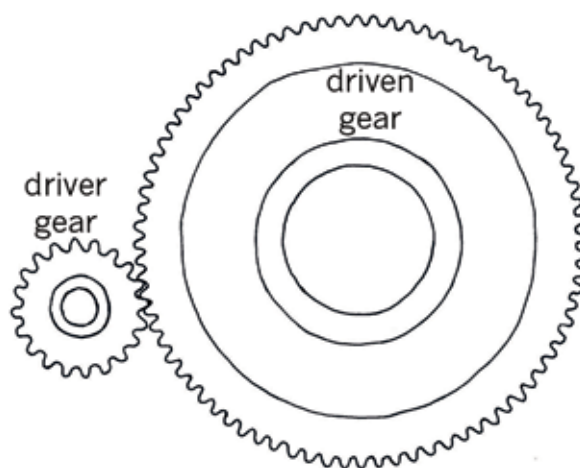

Figure 12
1. Look at the set of gears in Figure 12.
1. Calculate the gear ratio of the set of gears in Figure 12.
2. In Figure 12, if the input axle is rotating at 120 rpm, at what speed is the output axle rotating?
3. In Figure 12, which axle will turn with the greatest force, the driver or the driven axle?